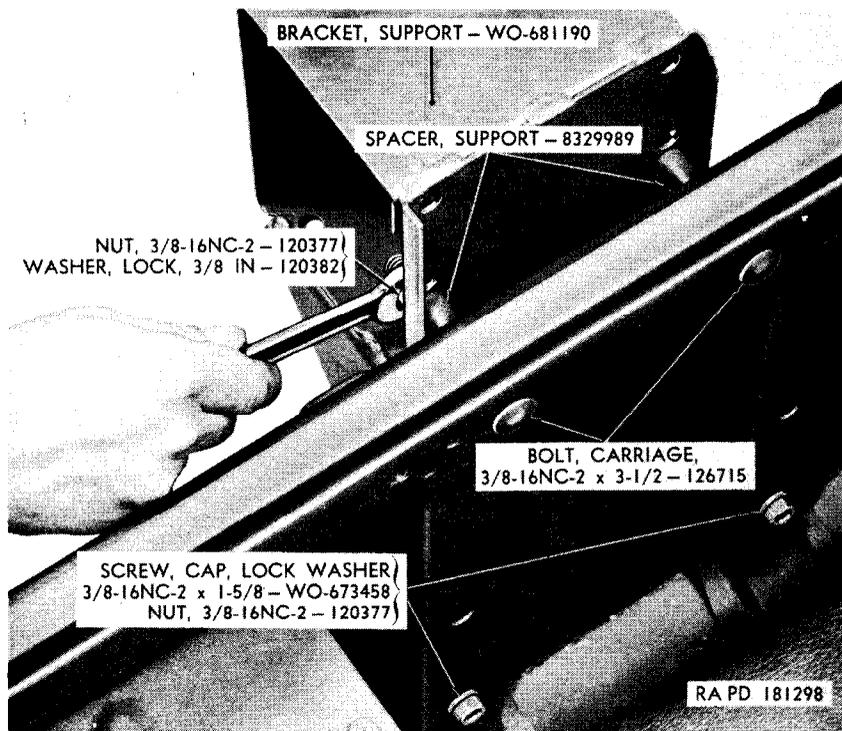

Figure 162. Removing spare wheel support bracket.
a. *Spare Wheel Support Bracket* (fig. 162). Remove spare wheel and tire assembly (par. 45). Remove two lockwashers, nuts, carriage bolts and support spacers securing top of support bracket to top of